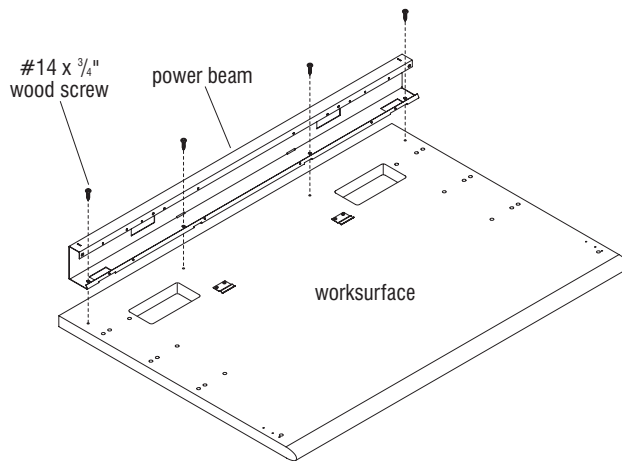

Figure 1
2. Attach power beam to underside of worksurface into the pre-drilled holes using #14 x 3/4" wood screws. Extended T-30 Torx Driver is provided to drive screws (Figure 1).